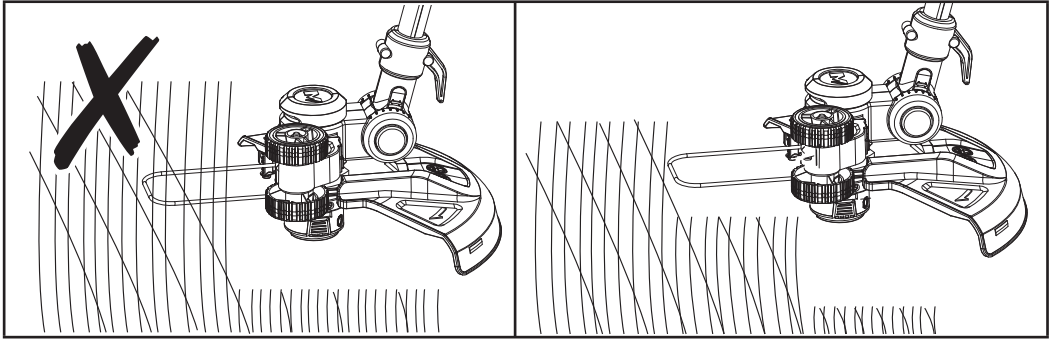

Fig. 10
- Do not allow the spool cap (16) to hit the ground.
- Make sure the machine remains clean and free from off-cuts that may cause it to jam. Check regularly. Release the on/off switch (2) and disconnect the battery pack (19) before checking.
- Trim longer grass in stages; do not cut long grass in one cut. For the best results, cut longer grass in steps (Fig. 10).